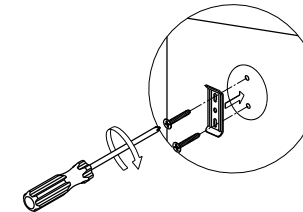

Fig. 5
- Step 5. Screw the mounting plate(with the lips facing out) to the wall with the mounting screws (fig 5).
- Step 5. Screw the mounting plate (with the lips facing out) to the wall with the mounting screws (fig 5).